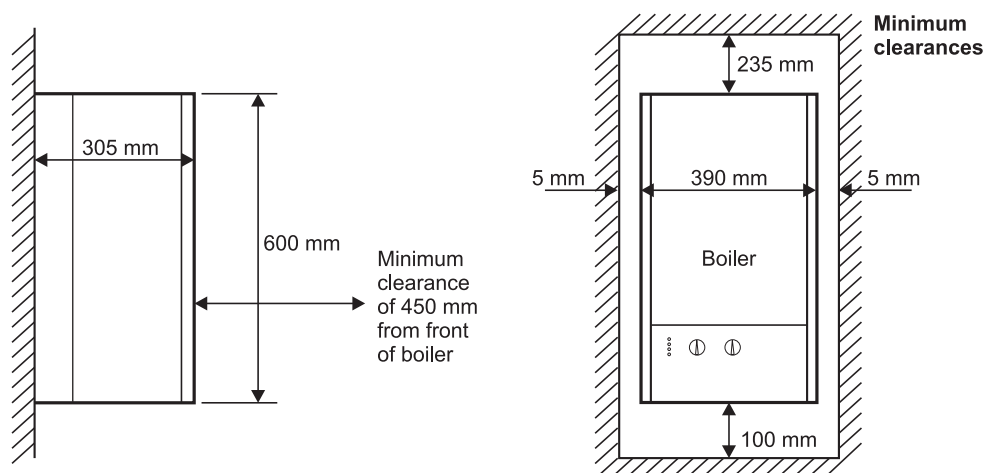

Fig. 10
4.2 CLEARANCES REQUIRED - Fig. 10